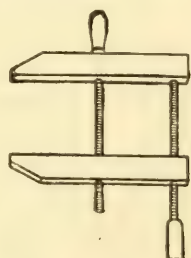

FIG. 40. — Wood Handscrews.
**Wood Handscrews** (Fig. 40) are handy, as are also a pair of